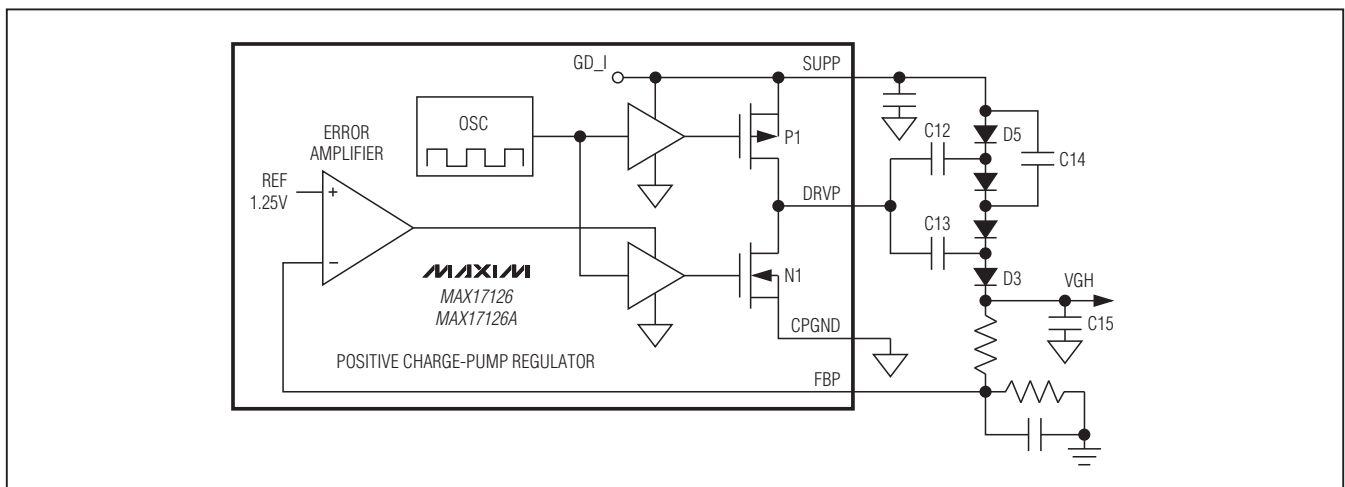

Figure 3. Positive Charge-Pump Regulator Block Diagram
The positive charge-pump regulator (Figure 3) is typically used to generate the positive supply rail for the TFT LCD gate driver ICs. The output voltage is set with an external resistive voltage-divider from its output to GND with the midpoint connected to FBP. The number of charge-pump stages and the setting of the feedback divider determine
the output voltage of the positive charge-pump regulator. The charge pump includes a high-side p-channel MOSFET (P1) and a low-side n-channel MOSFET (N1) to control the power transfer as shown in Figure 3.
During the first half cycle, N1 turns on and charges flying capacitors C12 and C13 (Figure 3). During the second half cycle, N1 turns off and P1 turns on, level shifting C12 and C13 by V_{SUPP} volts. If the voltage across C15 (V_{GH}) plus a diode drop (VD) is smaller than the level-shifted flying-capacitor voltage ($VC13$) plus V_{SUPP} , charge flows from C13 to C15 until the diode (D3) turns off. The amount of charge transferred to the output is determined by the error amplifier that controls N1's on-resistance.